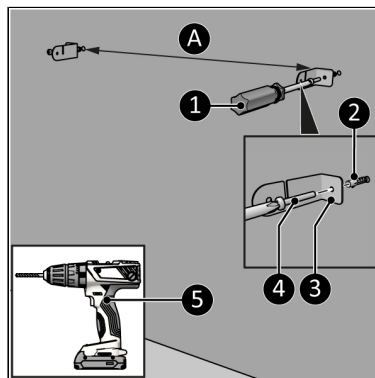

Figure 27.
4. Drill two holes at least 610 mm above the floor for the brackets. The distance between the holes is approximately (Figure 27, pos. A)*:
5. Place wall plugs (Figure 27, pos. 2).
6. Screw and tighten a left and a right bracket (Figure 27, pos. 3) to the wall with a large screw (Figure 27, pos. 4) using a Phillips screwdriver (Figure 27, pos. 1).